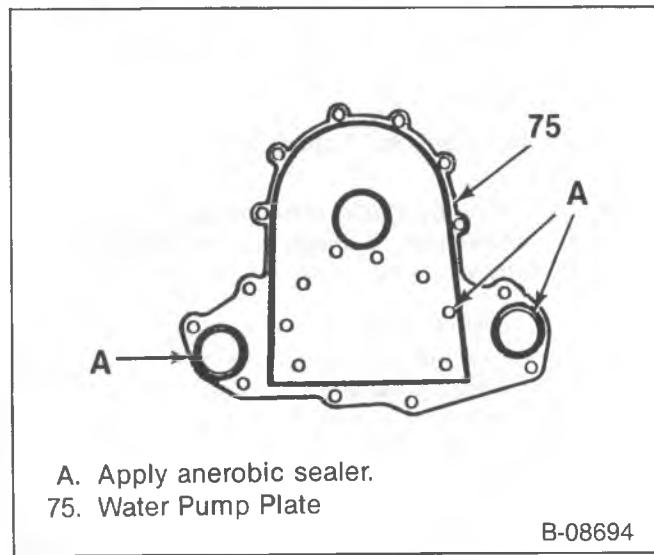

Figure 46—Applying Sealer to the Water Pump Plate
- Water pump (82) and gasket (77) to the water pump plate (75).
- Bolts (88).
- Bolts (88) to 22 N·m (16 ft. lbs.).
- Apply a bead of anaerobic sealer (GM part no. 1052357 or equivalent) to the water pump plate as shown in figure 46.
- Apply sealant (GM Part no. 1052080 or equivalent) to the threads of bolts and studs (76).
- Bolts and studs (76).
- Oil filler neck (83) and nuts (84).